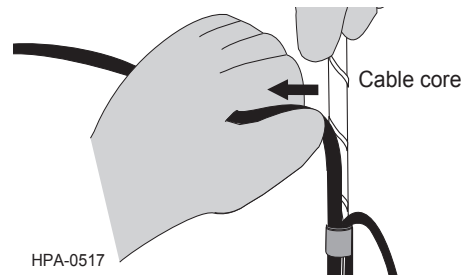

Figure 11
Step 4: Peel the remaining cable sheath half away from the cable core (Figure 11).